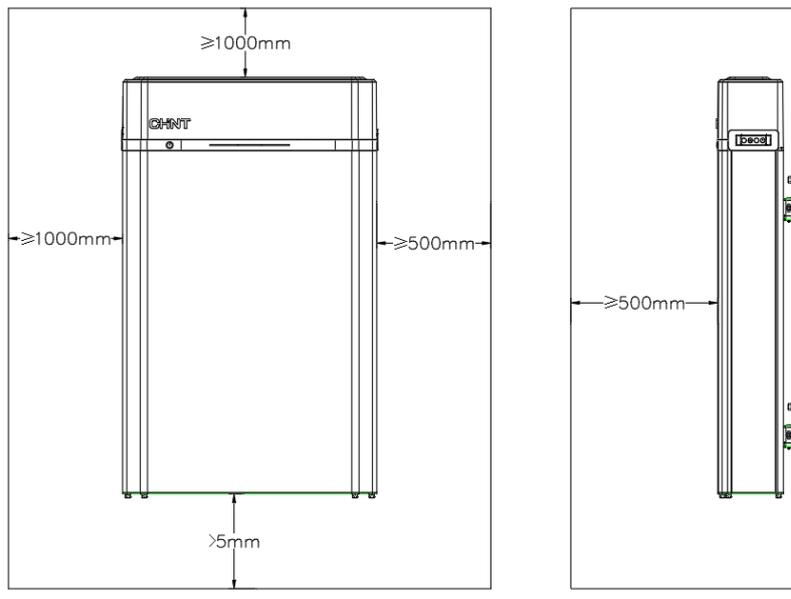

Figure 4-11 Diagram of installation position
- The installation location shall meet the requirements as shown in Figure 4-11, so as to install in the early stage, later maintenance and repair etc.